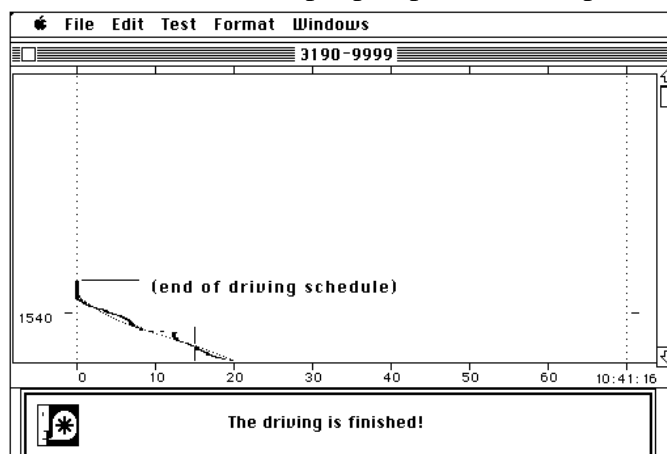

Figure 22
- 355 At the 1545-second point of the HFEDS, 2 seconds after the end of the deceleration to zero, the VDA will automatically switch off the sample bag. See Figure 22. The “EOT” indicator will come on. The vehicle engine must be running.